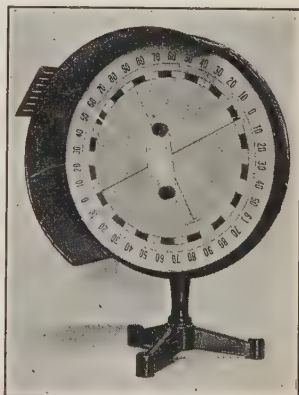

FIGURE 281.—Photograph of a ray of light passing through a parallel-sided glass plate.
**(85) Refraction through a Parallel-sided Glass Plate.**—A rectangular glass plate is mounted so that light passing through a slit falls upon it obliquely (Figure 281). The light is seen